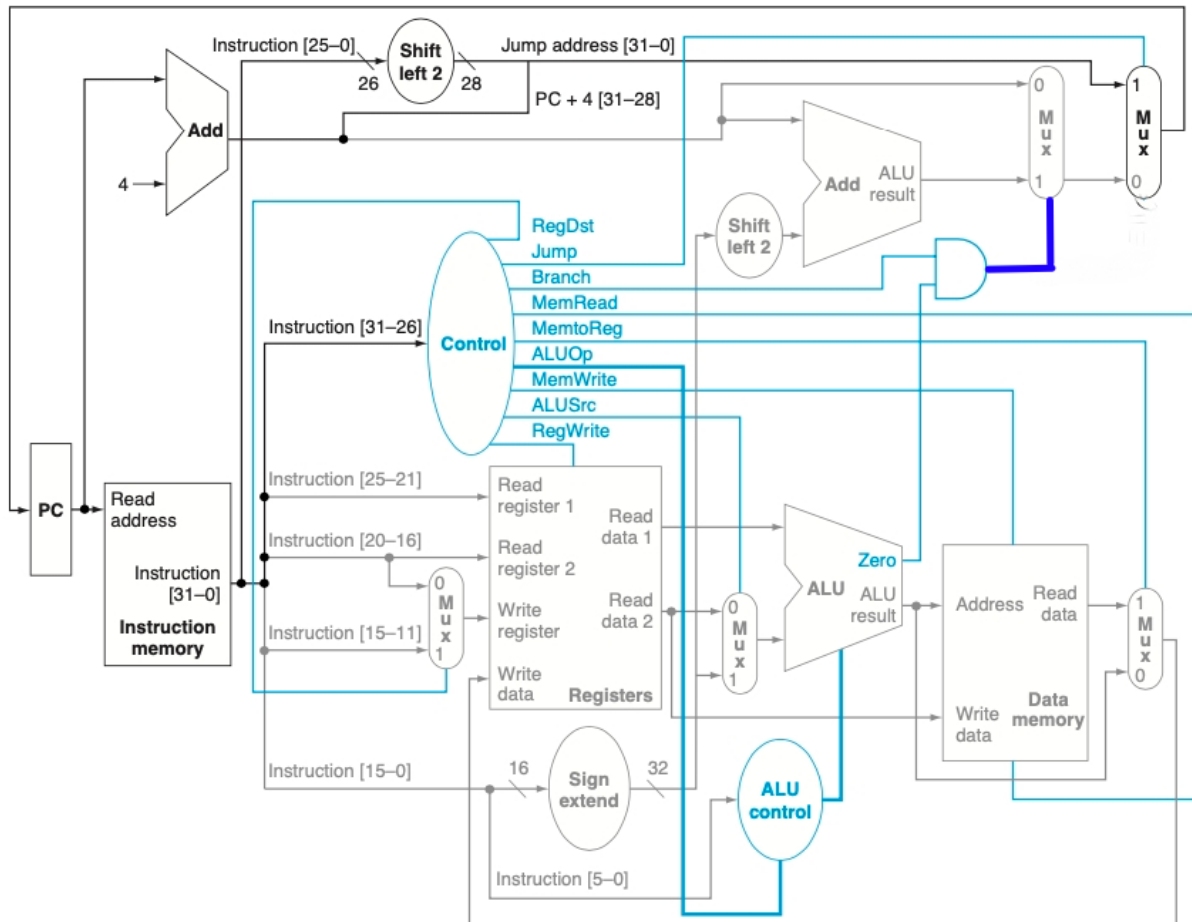

Figure 1: MIPS Block Diagram
The single-cycle MIPS processor is shown in Figure 1. This version of MIPS is labeled as such because each instruction takes a single clock cycle to execute, and instruction execution is not overlapped. In other words, the currently executing instruction must fully complete before the next instruction can start. As we will see in this lab, this sort of implementation is extremely inefficient. Examination of the diagram reveals where the data-memory module and register-file fit in. The instruction memory will be provided for you in the form of a Read Only Memory (ROM) module with preloaded test programs. A portion of the questions at the end of lab will address these test applications.
1. **Design the control unit logic.** The control unit orchestrates the flow of data through the microprocessor by decoding the 6-bit op code within the current instruction. Simply put, each of the control signals shown in Figure 1 will be set to LOW or HIGH based solely on the op code field (see Figure 3). The control unit is nothing more than a large decoder, and this level of simplicity is maintained by the fact that we already designed the ALU control logic.
- (1) Use Figure 1 to create a table which lists the values (i.e. 0 or 1 for individual signals and use the defines for the op code field) of all the control signals for the following instructions: R-type, load/store word, immediate (only those currently supported by the ALU), branch (just beq for now), and jump.
- (2) Write the Verilog to describe your control logic using the following module interface:
- Some instructions require that the 16-bit immediate field be sign extended, while some do not. This is not depicted in Figure 1, and your control unit design does not support this. You must add this capability.
- (2) Use the test bench provided on the laboratory website to test the functionality of your overall design. Paste the output of the simulator into your lab write-up.
- (3) Once your design passes all tests provided by the test bench, synthesize your design and ensure no errors or warnings exist. Provide the summary results of the synthesis process in your lab write-up.